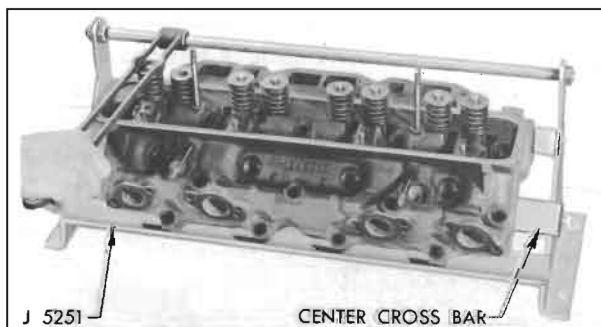

Figure 2-17—Removing Valve in Holding Fixture J 5251
1. Place cylinder head on Holding Fixture J 5251 with valve springs straight up. Compress valve springs with fixture lever and remove the spring cap keys, then remove the springs and caps. See figure 2-17.